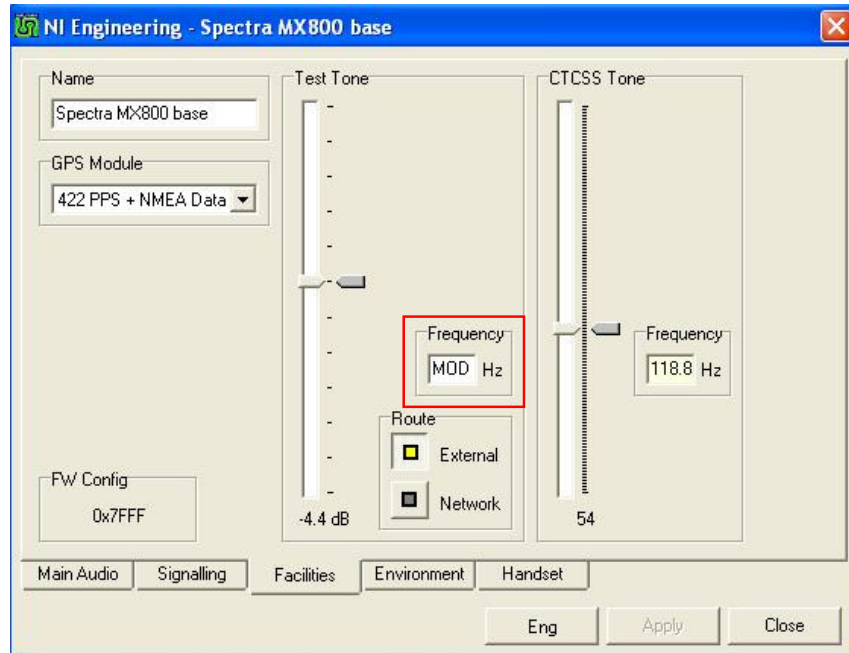

Figure 8. NI Engineering – Facilities tab, Test Tone Frequency.
- 12.3. On the “Facilities” tab, check that the Test Tone “Frequency” has changed to “MOD” indicating that the SB2000 Modulation Balance test signal is being generated (see **Figure 8** overleaf).